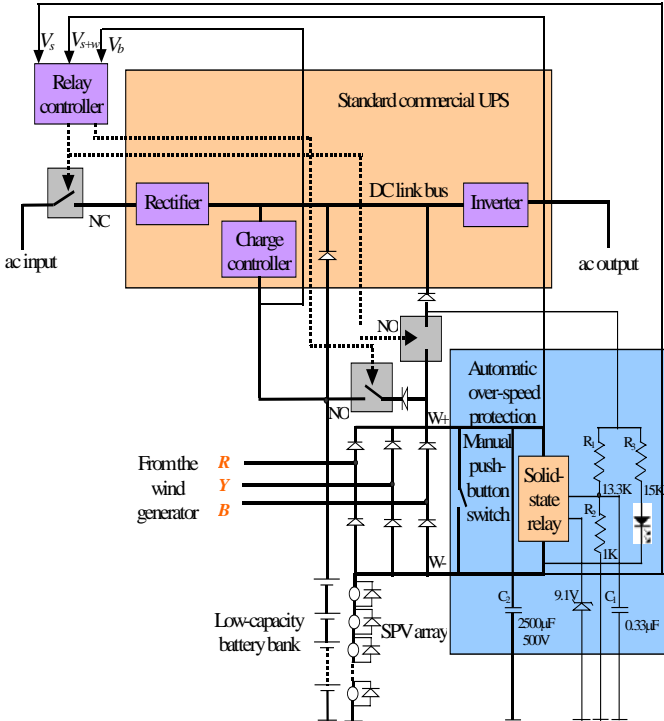

Figure 1. Line diagram of hybrid SPV/wind UPS
5. Use a diode (of current rating I_d) to couple your SPV array-wind generator to the dc bus of your UPS (diode D1 in Figure 1). Ensure that your diode's heat sink has the capacity to dissipate $I_d \cdot V_f$ watts while limiting the temperature rise to 60° C above ambient with normal convective cooling. The surface area is about 284 cm^2 .
6. Use a diode (D2 in Figure 1) of current rating